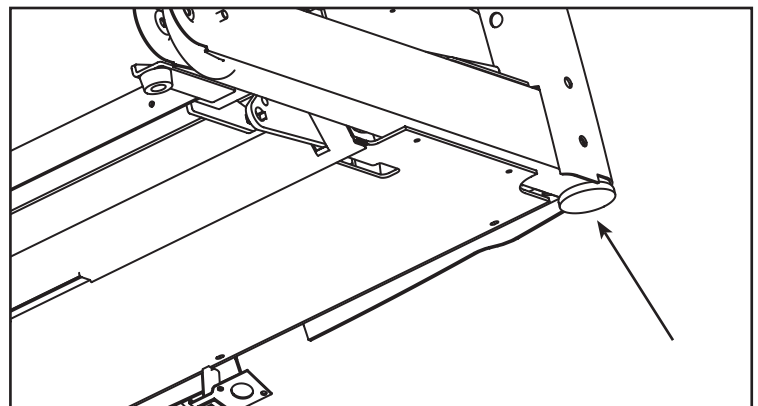

Figure 9: Adjust Levelers
11. Assembly is complete. Move Treadmill to permanent location. See Moving Instructions. Before operating the treadmill, adjust Levelers so that Base of treadmill does not wobble. See Figure 9.